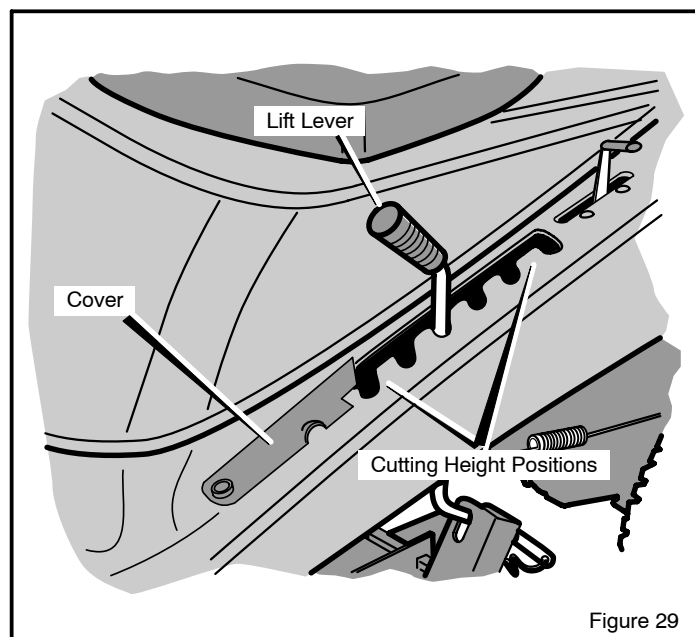

Figure 29
9. Raise the **lift lever** from the LEVEL ADJUSTMENT position to a CUTTING HEIGHT position (Figure 29).